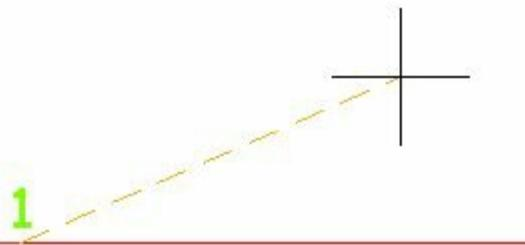

Figure-33. After selecting wire number
- Select the desired wire number from the drawing. You will be prompted to specify the point for leader end point; refer to Figure-33.